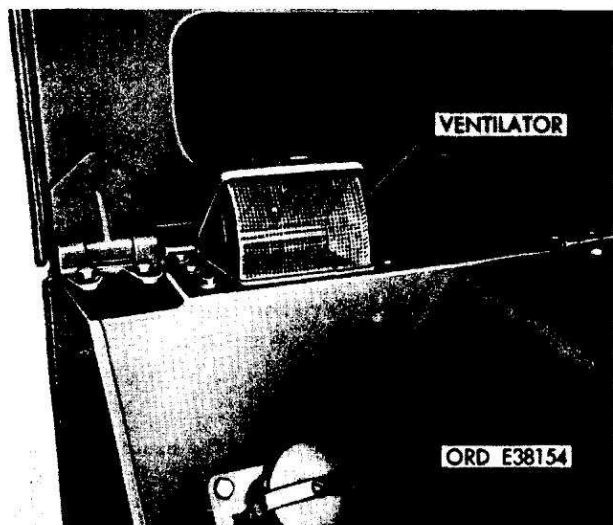

Figure 4-20. Cowl ventilator.
g. Cowl Ventilator. The heater ventilator (fig. 4-20) is located on the right hand side of the cowl top panel. When pulled up to the stop, fresh outside air is admitted to the heater. When the ventilator is pushed down to the cowl top panel, air from the crew compartment is reheated and recirculated. The ventilator is accessible from outside the crew compartment.
b. Defrost. For maximum defrosting, pull the cowl ventilator (fig. 4-20) up to full open position; move the defroster lever (C) to the rear detent (open) and the driver heat lever (B) to the forward detent (closed). Move heater switch (A) to the "HI" position.
c. Driver Heat. For maximum driver heat, pull the cowl ventilator up to full open position; move the driver heat lever (B) to the rear detent (open) and the defroster lever (C) to the forward detent (closed). Move heater switch (A) to the "HI" position.
d. Crew Heat. For maximum crew heat, pull the cowl ventilator up to full open position; move the driver heat and defroster levers to the forward detents, and open the dump door (D) on the bottom of the diverter box (E). Move heater switch to "HI" position.